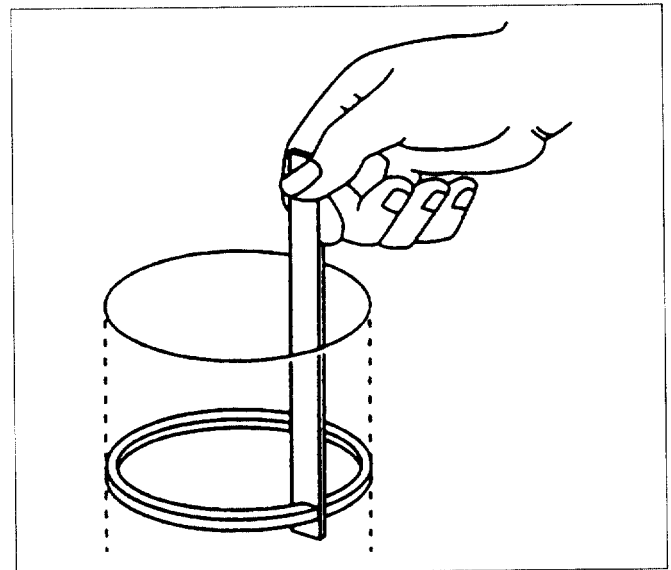

Figure 29 – Measuring Piston Ring End Gap
- Piston ring end gap (Figure 29).